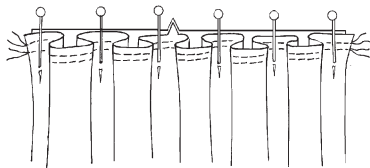

Fig. 5-2
2. To attach the section to be gathered to a straight edge, place the two parts with right sides together. Then pin the center of the edge to be gathered to the center of the corresponding straight edge. Match markings, notches, and seams on the edge to be gathered with those on the straight edge, and pin. (Fig. 5-2)